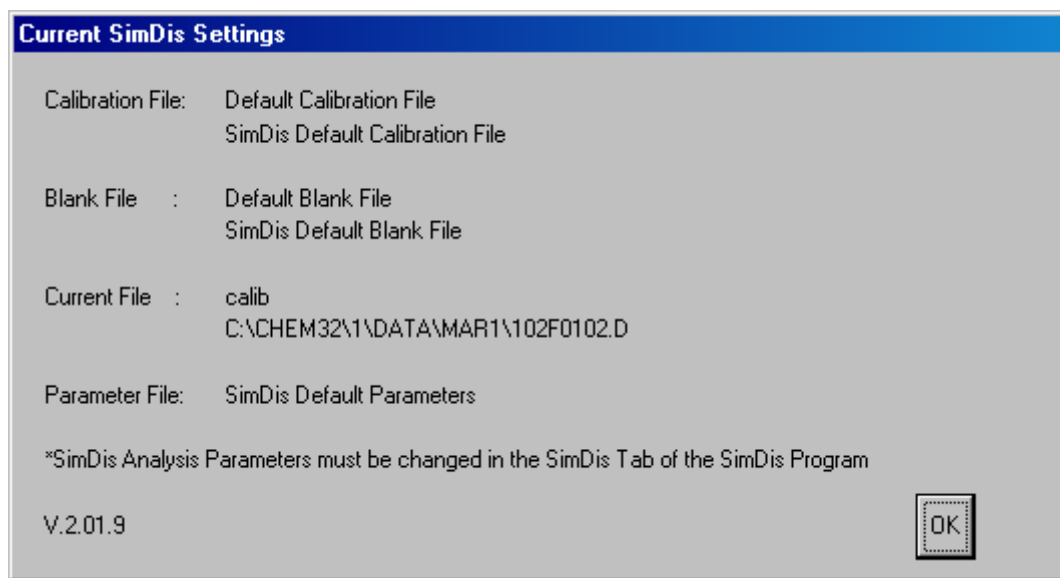

Figure 44 Typical **SimDis / Display Settings (Setup / Use SimDis Defaults used)**
- Figure 44 is an example of what is shown if **Use SimDis Defaults** is selected